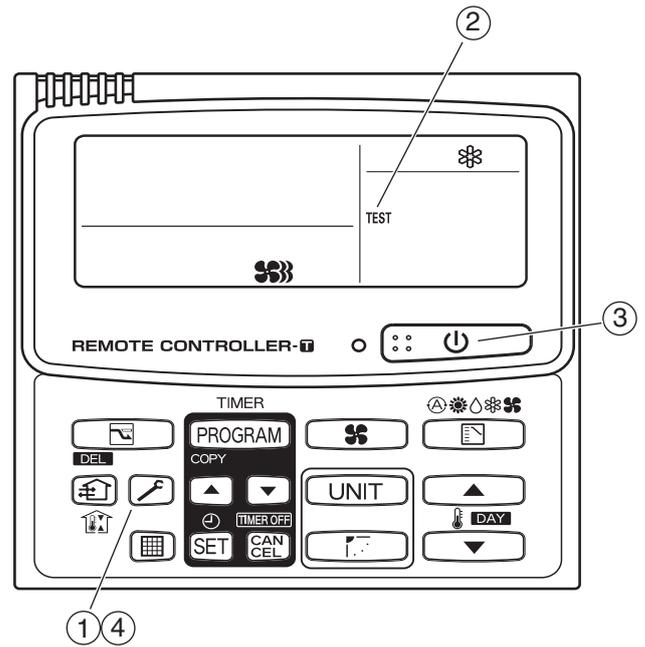

Fig. 7
- ① Press and hold the  button for 4 seconds or longer.
- ② "Test" appears on the remote controller LCD display (Fig. 7).
- ③ Start operation.
- ④ Press the  button to return to normal remote controller display.